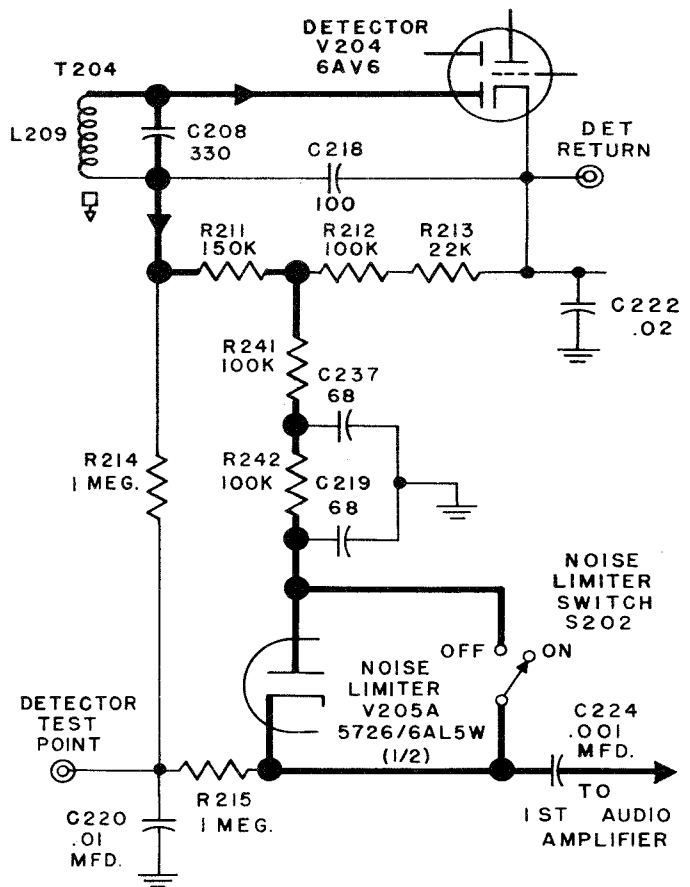

Figure 2-12. Simplified Schematic,
(2) DETECTOR-NOISE LIMITER.—As indicated in the simplified schematic figure 2-12, one diode section of the type 6AV6 tube (V204) is used as a detector. The detected audio voltage appears across C218 and load resistors R211, R212 and R213, which are connected between the return of the secondary of T204 and the cathode of V204. C218 bypasses most of the IF component. The audio is then applied to the noise limiter tube which consists of one half of a type 5726/6AL5W tube (V205-A).